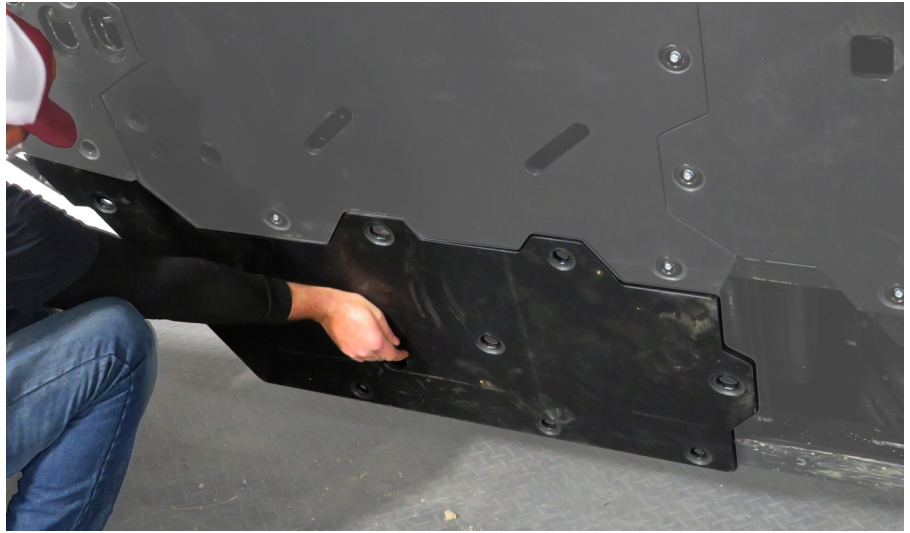

Fig.14a
14. Now that you have the center plates and guard on, now you will start to install the sides, starting again from the rear working towards the front of the vehicle. You can start on either side as they are installed the same for both sides. We will show the bottom or driver's side for these instructions. **Fig.14a** shows the next placement of the plate. The opposite side is the same. **Fig.14b** shows that only two factory screws are used to hold it in place, ready for the next plate.